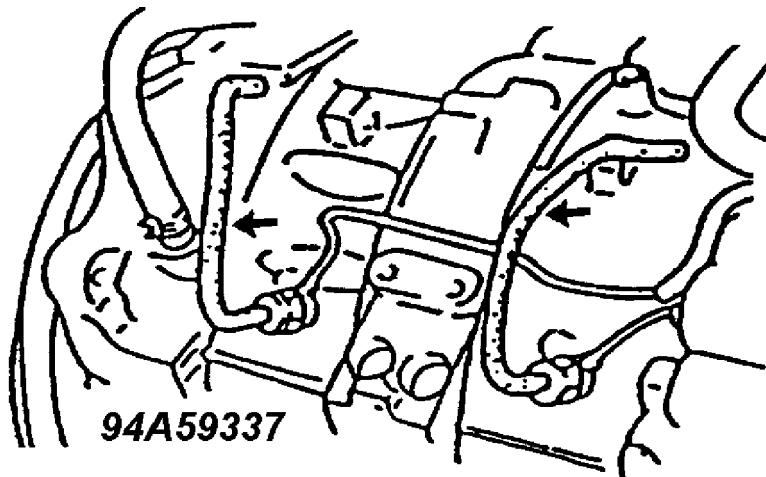

Fig. 24: Location of Vacuum Tubes
30. Replace the two vacuum tubes with new ones. See Fig. 24.